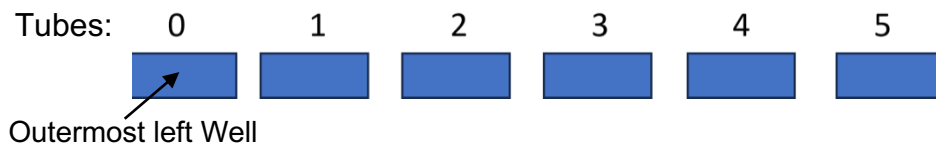

Figure 5.8. Loading schematic of the gel electrophoresis
4. Load 20 μ l of each sample into a separate well of the gel. You should not leave any empty wells between the samples and the samples should be placed as follows (see figure 5.8):